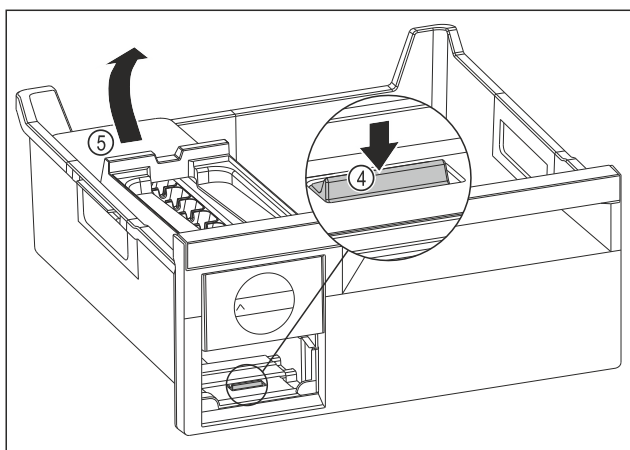

Fig. 144
- Removing the EasyTwist-Ice body: Use your finger to push the tab Fig. 144 (4) down and use your other hand to lift the EasyTwist-Ice body Fig. 144 (5) from behind at the same time.